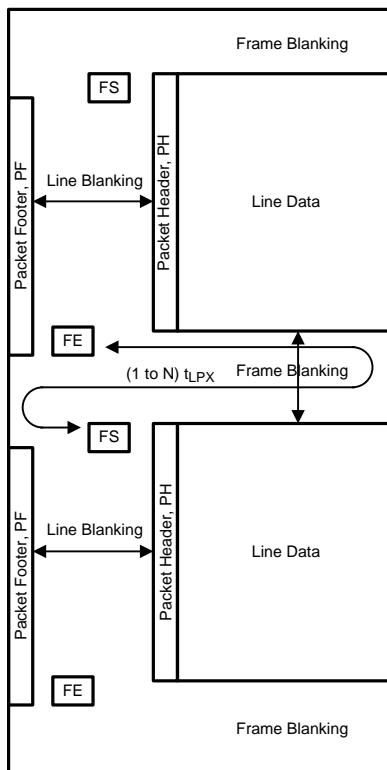

Figure 30. CSI-2 General Frame Format
The DS90UH940-Q1 (in default mode) takes RGB 24-bpp data bits defined in the serializer and directly maps to the pixel color space in the data frame. The DS90UH940-Q1 follows the general frame format as described per the CSI-2 standard (Figure 30). Upon the end of the vertical sync pulse (VS), the DS90UH940-Q1 generates the Frame End and Frame Start synchronization packets within the vertical blanking period. The timing of the Frame Start will not reflect the timing of the VS signal.